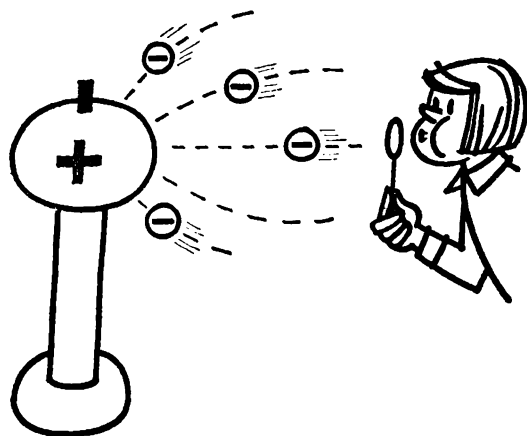

Fig. 57
When charged soap bubbles were blown towards the sphere of a Van de Graaff generator they tended to move along the dotted lines shown in Fig. 57. Such lines are sometimes referred to as *lines of electric force*. They indicate the direction in which the force acts on a charged particle at any point. *Can you draw a diagram showing the lines of gravitational force round the Earth?* (12)